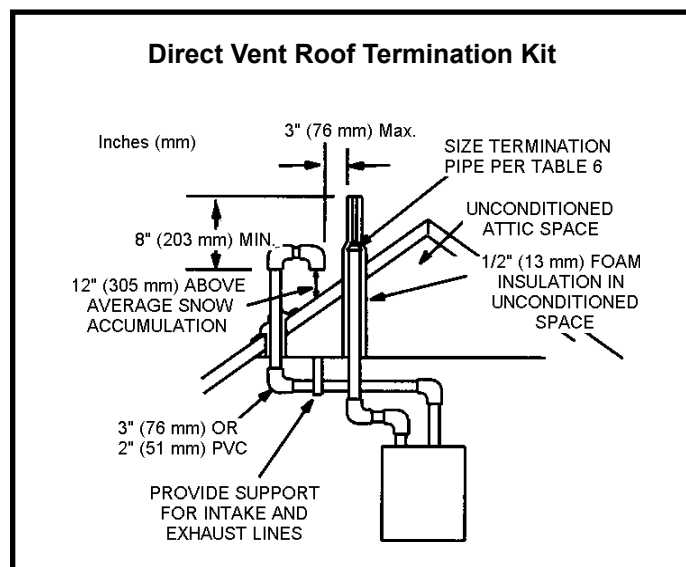

Figure 21
3. On roof terminations, the intake piping should terminate straight down using two 90° elbows (See Figure 21).